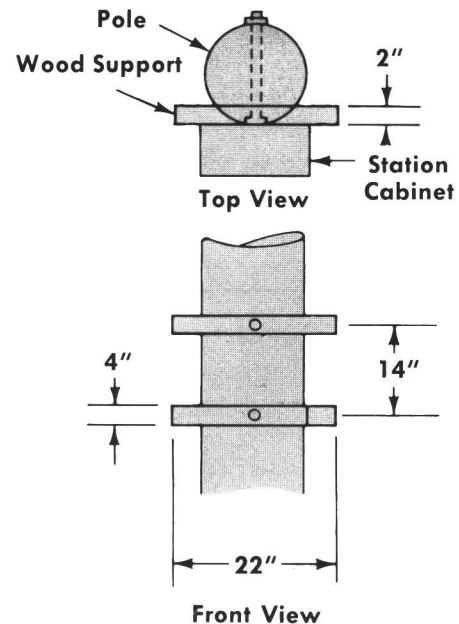

Figure 4 — Installation to a Single Pole
1. Cut horizontal mounting surfaces for two 2" by 4" wood supports on pole. Cut should be about 1" deep to allow outside surface of wood support to extend out from curvature of pole (see Figure 4).